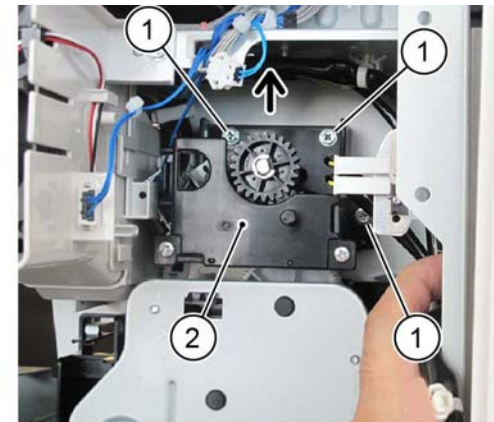

Figure 3 Exit 1 transport assembly
7. Move the exit 1 transport assembly, **Figure 3**:
- a. Remove three screws (1).
- b. Move the exit 1 transport assembly (2) upward.